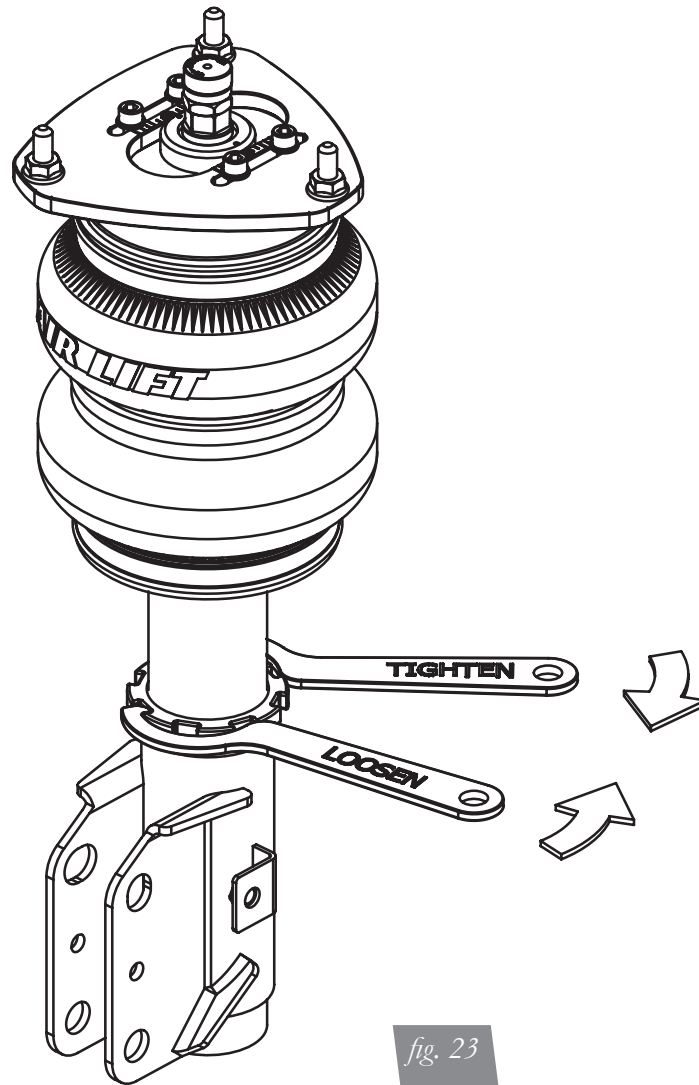

fig. 23
3. Using the supplied spanner wrench, loosen the lower locking collar (Fig. 23).